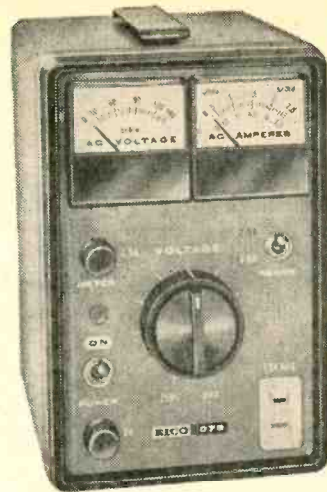

Fig. 12. AC power input can be controlled easily with this EICO Model 1078-K Variable Bench Supply. Fuses protect instrument—meters indicate output.
Input Power. A transmitter consumes power from a battery or a power line and converts it into RF energy. A typical CB set consumes about 50 watts of primary power and delivers about 3 watts of RF, making it about 6% efficient. Primary (AC) input power can be measured in volt-amperes with an AC voltmeter and ammeter as shown in Fig. 4 or by reading the meters built into an AC power supply, such as the one shown in Fig. 12. Or, watts can be measured with a wattmeter.